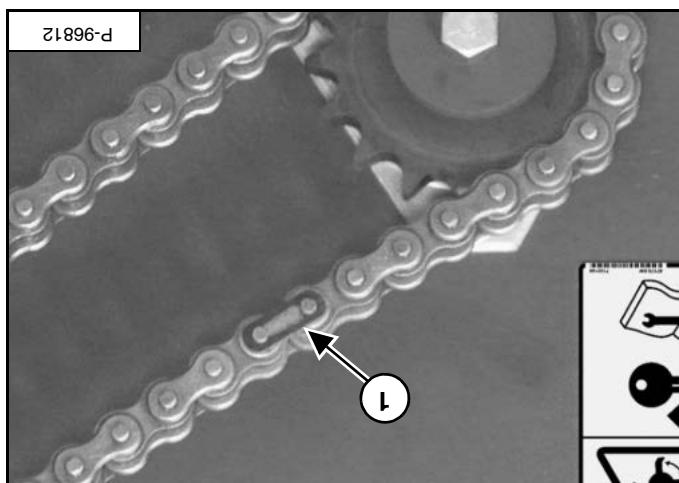

Figure 135
Remove the chain connector link (item 1) [Figure 135].
Install the chain and connector link (item 1) [Figure 135].